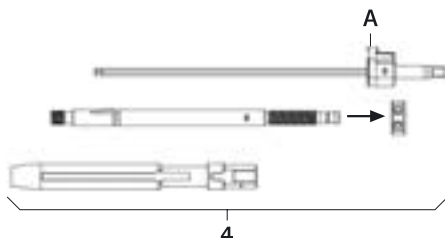

Fig. 2
- To dismount reduction lever **4**, see Fig. 2: